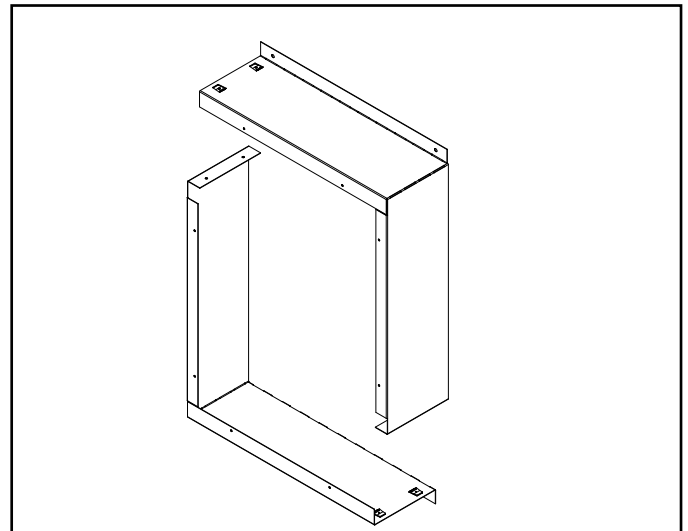

Figure 5. Bend BEK Sections
6. Assemble the LPC-BEK kit. Bend the two sections of the LPC-BEK kit as shown in Figure 5.